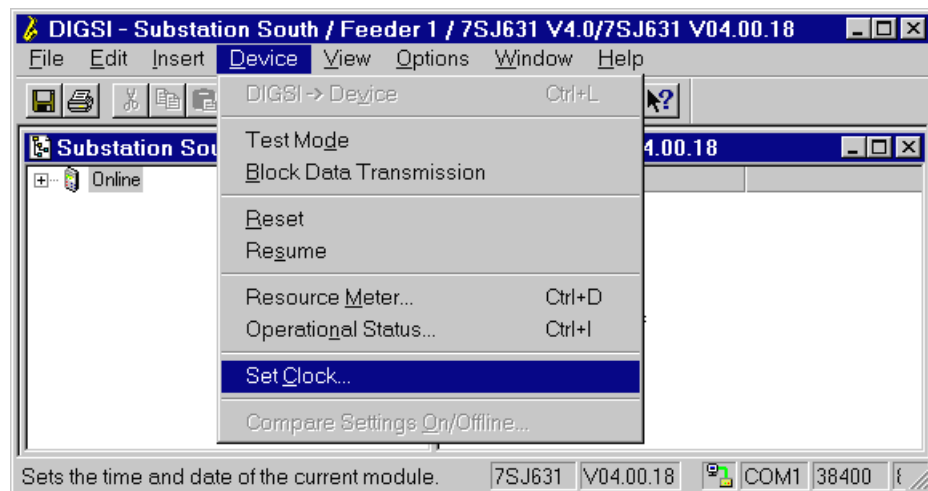

Figure 3-11 DIGSI® 4 — Selection of the Option **Set Clock**
- ❑ Click on **Device** in the menu bar. See Figure 3-11.